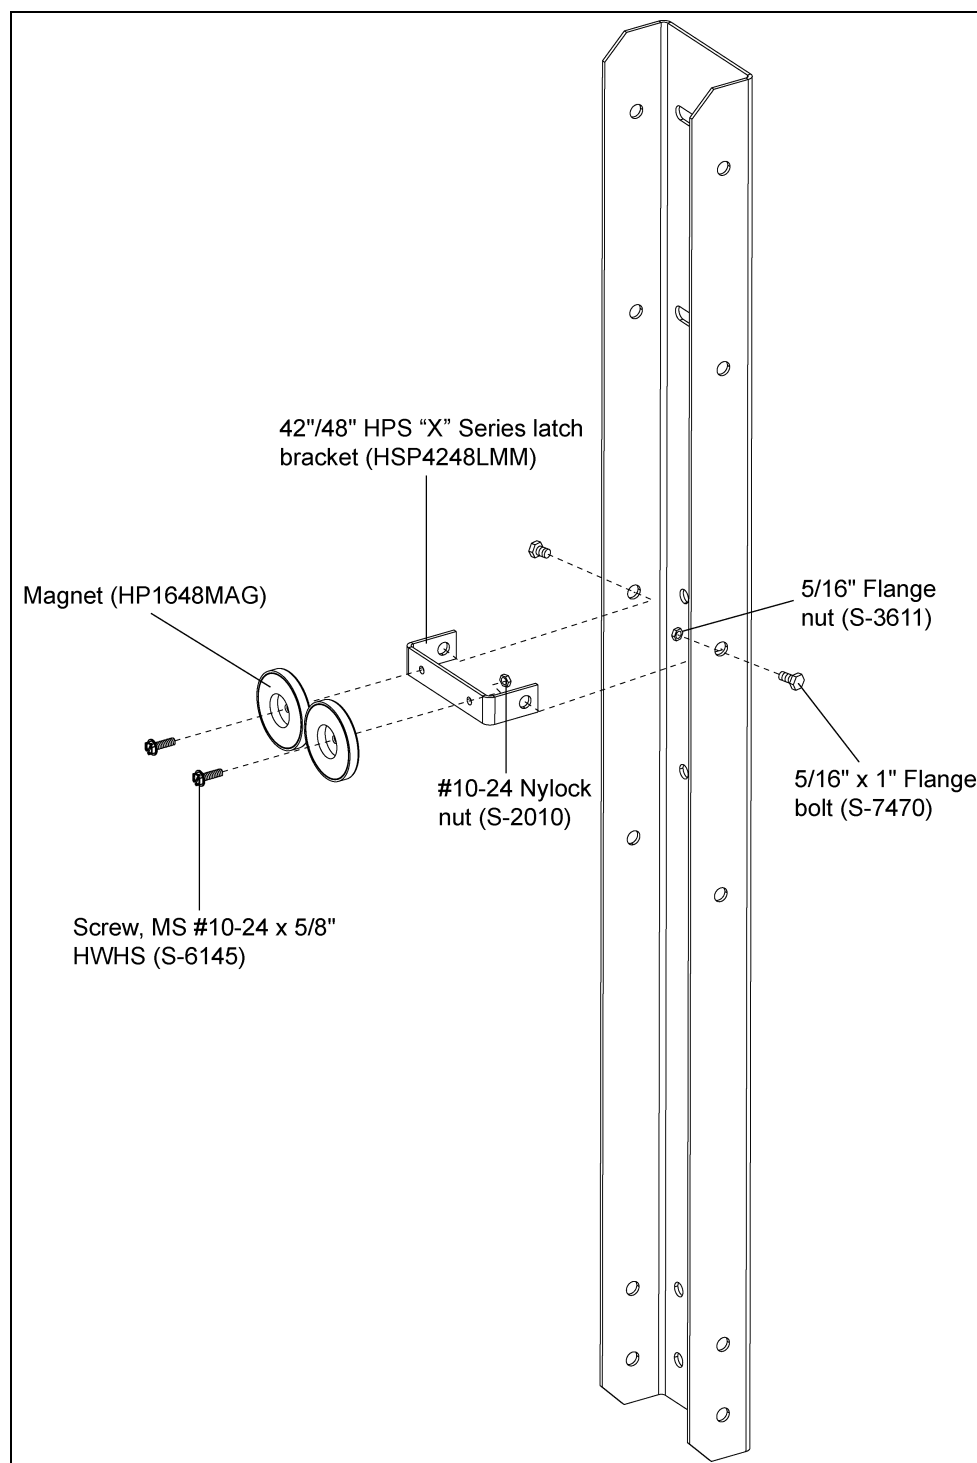

Figure 8T
6. Install "X" series latch bracket assembly (HSP4248LMM and HP1648MAG) to this post where the hatch meets the post using 5/16" x 1" flange bolts (S-7470) and 5/16" flange nuts (S-3611) through the holes in the side of the post. (See Figure 8T.)